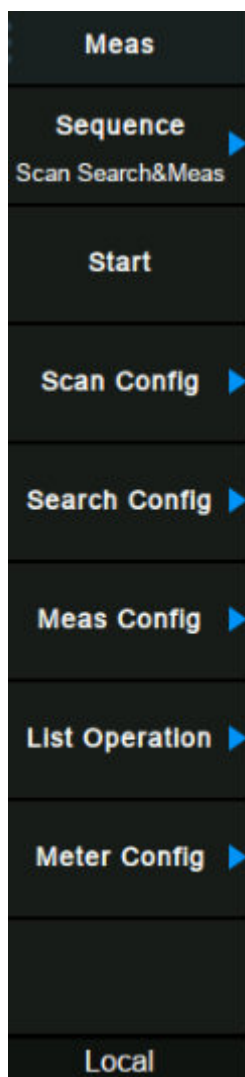
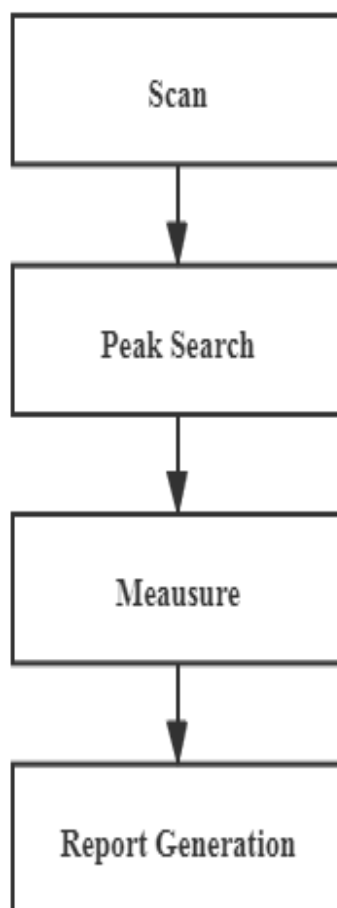

Figure 7-3 Meas Menu
Figure 7-2 CISPR-recommended EMI test flow
**Meas** is the default menu of EMI measurement mode as shown in the Figure 7-2. Sequence is very important for understanding the philosophy of EMI measurement operation because it aligns with the CISPR test flow. Figure 7-3 shows the EMI test flow recommended by CISPR 16-2-3. A complete routine measurement consists of a series of routines, i.e. scanning, search and final measurement.